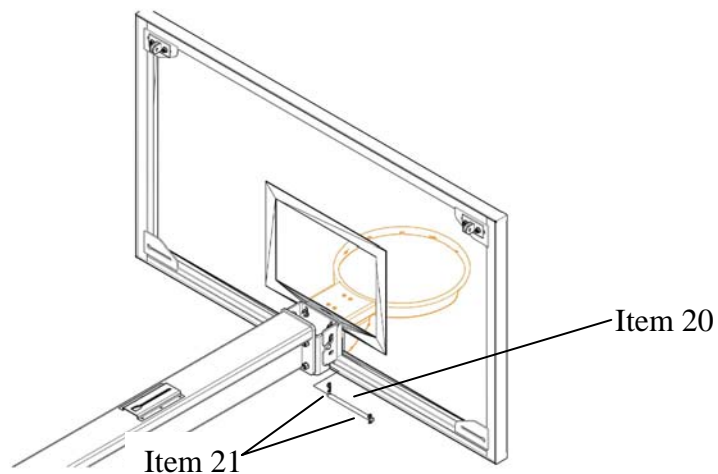

Figure 4
4. Position the backboard with the slots of the Quick Change bracket onto the pins of the bracket on the main boom as shown in figure 4. Slide the board assembly completely onto the pins and insert the Quick Change Locking Rod (item 20) through the slots and holes in the board and boom brackets. Secure the locking rod with the Retaining clips (item 21).